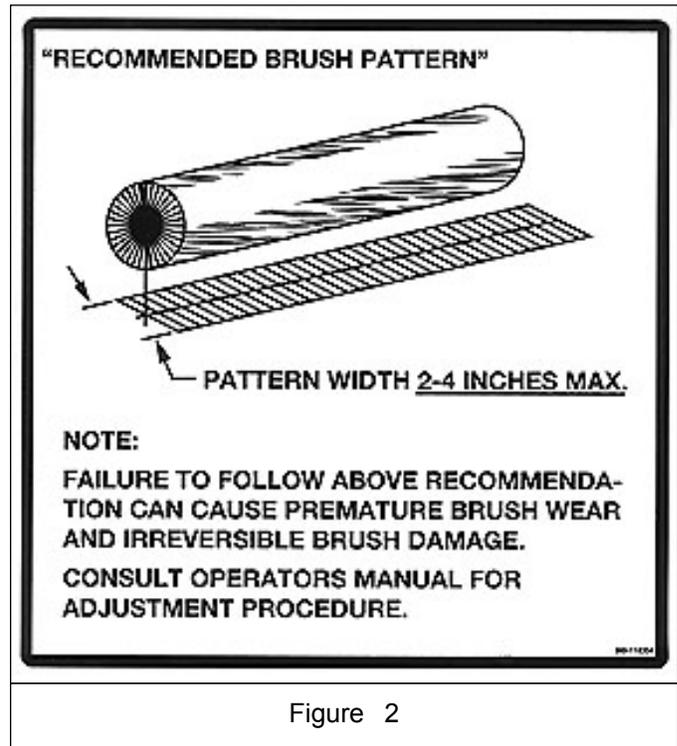

Figure 2
8. Measure the width of the brush mark/pattern. The 'cleaned' contact patch should be 2" - 4" for the entire length of the broom. See Figure 2.